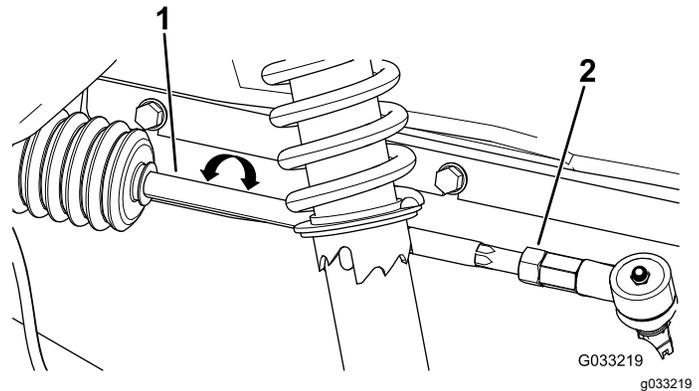

Figure 60
2. If the measurement does not fall within 0 to 6 mm (0 to 1/4 inch), loosen the jam nuts at the outer end of the tie rods (Figure 60).